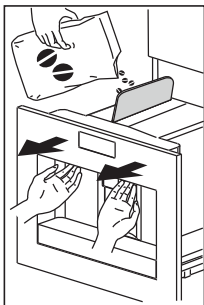

Fig. 14
- Extract the machine by pulling it outwards using the handles (Fig. 14).